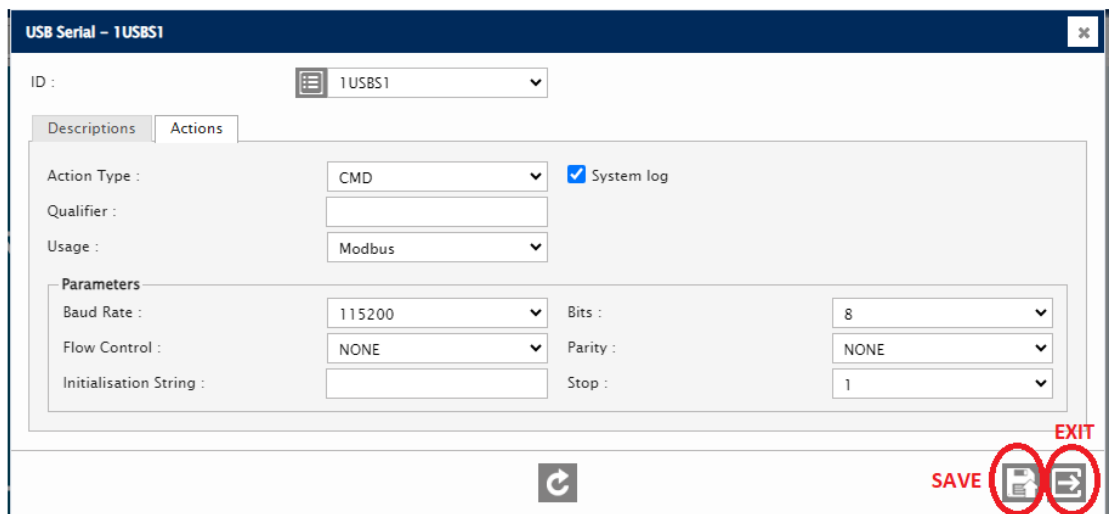

Figure 8: Devices – USB Serial configuration screen – Actions tab
- (h) Select the Actions tab to display the screen in Figure 8. Verify the fields are configured as shown. If any information is not set properly, change as required and press the Save button when complete. Press the Exit button to close the configuration screen.